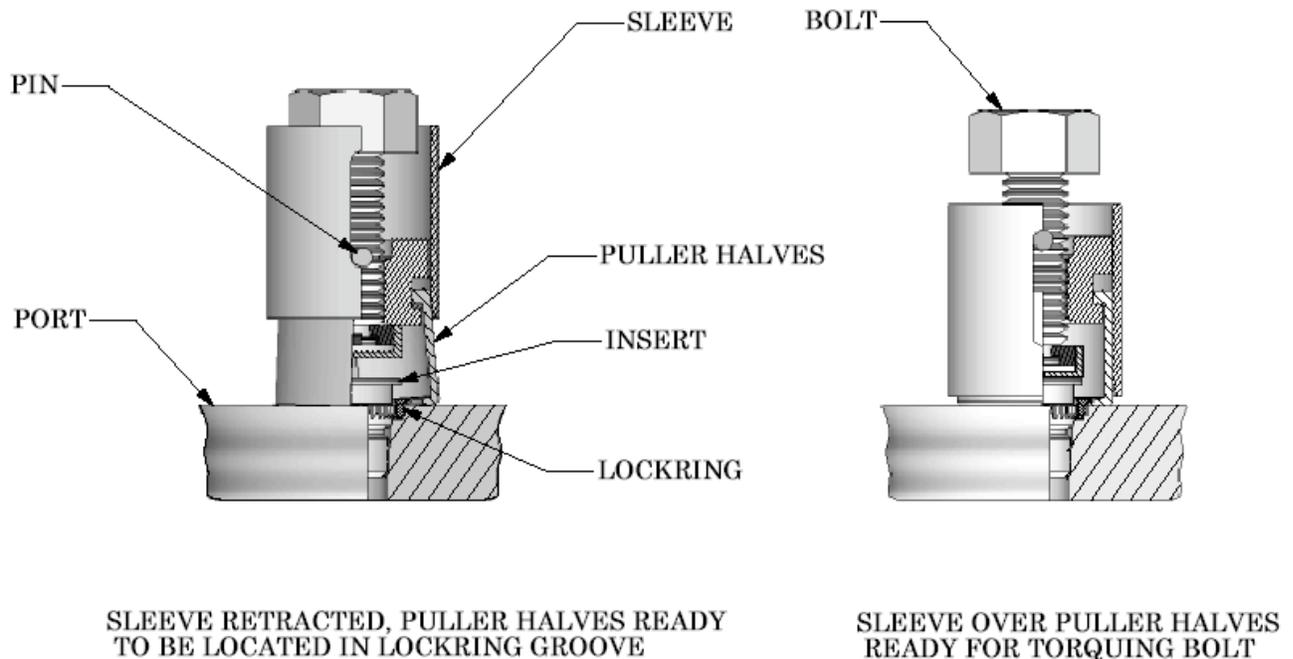

FIGURE 5 - LOCKRING RETRACTION
7.2.2. Spread the puller halves apart by retracting the sleeve from the tool until the pin bottoms in the groove of the sleeve per figure 5. Holding the puller halves apart, place tool over protruding insert so that the nylon pad rests on the top surface of the insert. Release the puller halves and locate in the groove of the lockring. Adjustment up or down is achieved by rotating the bolt head. Slide the sleeve over the puller halves and check for proper engagement of the puller halves in the lockring groove.